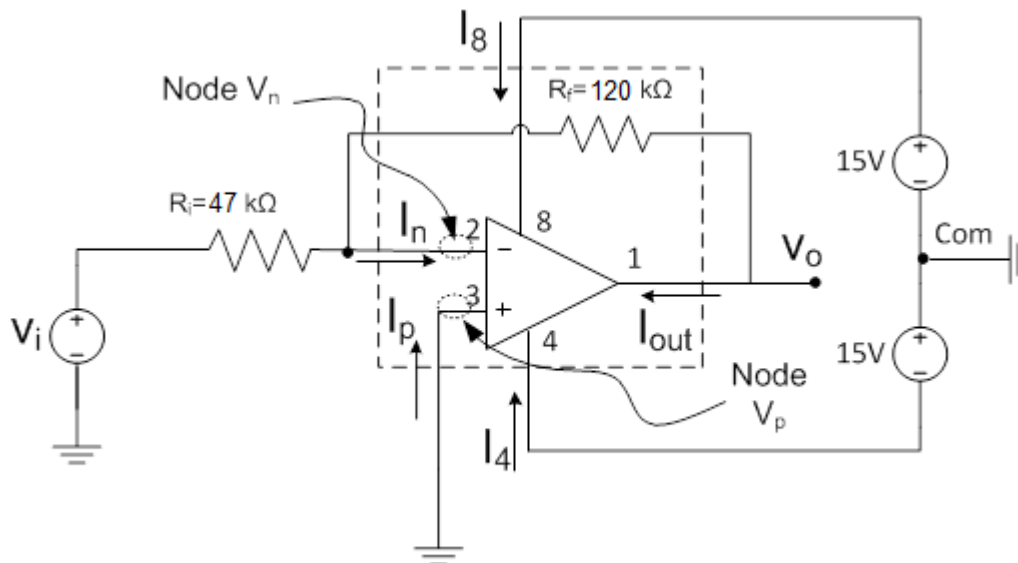

Figure 8-4: Circuit of Figure 1, with the op-amp super-node depicted inside the dashed lines.
- Calculate the current, I_{out} in Figure 8-4 for $V_i = 1V$.
- Using the circuit that you just constructed, with the input set to $4V_{DC}$, verify that the sum of the currents entering the super-node encompassing the five terminals of the op amp equal zero. The supernode is represented by the dashed line in Figure 8-4 below) equal 0. Use the DMM to measure each of the currents labeled on the circuit shown in Figure 8-4. That is, measure currents labeled: I_n , I_p , I_4 , I_8 , and I_{out} . Remember that you need to place the ammeter in series. By convention all currents are labeled as directed into the chip, even if positive current is actually flowing out of the chip. Verify that KCL holds for the supernode. Create a data table to compare the measured and predicted values for the current, I_{out} . There should be an error analysis for I_{out} .
- The *virtual short circuit condition* states that $V_p = V_n$ when an ideal op-amp is wired for negative feedback. Measure V_n and V_p for the circuit in Figure 8-4 to verify the veracity of this ideal op-amp assumption. Make sure to measure the input voltages with respect to the common ground. According to the manufacturer's data specification sheet for this part, $|V_p - V_n|$ should be less than 6mV and is typically 3mV. How does your data compare?
2.6 Inverting op-amp –AC Output: In this part you will use the Function Generator (FG) to generate a time-varying signal with a sinusoidal shape. This will be the input, V_i , to the op amp circuit.
- Label the currents on the circuit in Figure 8-4 on the circuit you drew in part 2.1
- Label the voltages on the circuit in Figure 8-4 on the circuit you drew in part 2.1